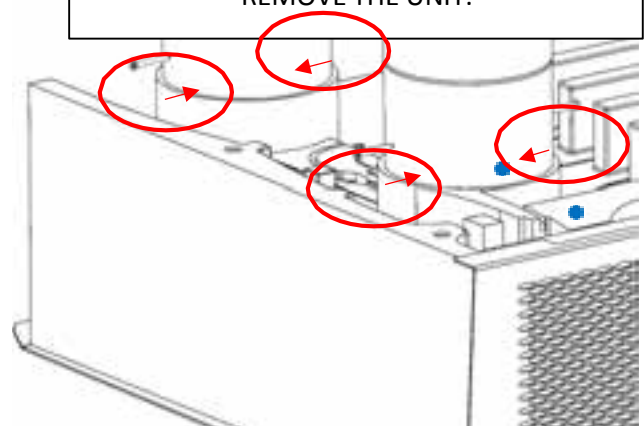
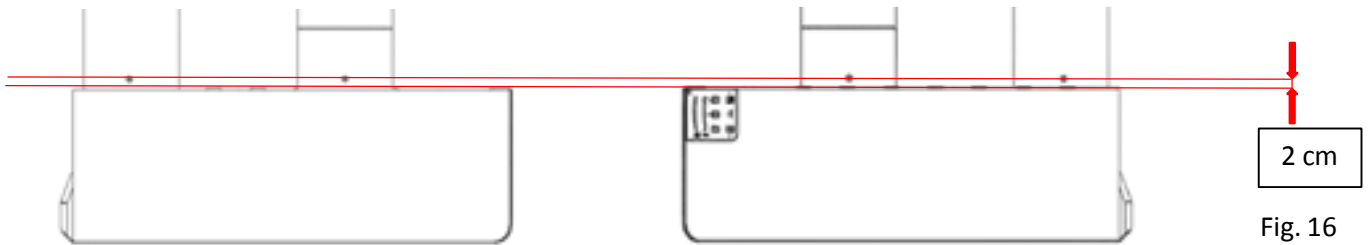

Fig. 15
Fig. 16
- Secure the installed piping with self-tapping bolts $\varnothing 4 \times 22$ mm (part of the mandatory accessories delivery – box 2) against each other as shown in Fig. 15 – 4, at a distance of 20 mm from the edge of the unit, see Fig. 16.
- Secure the installed piping with self-tapping bolts $\varnothing 4 \times 22$ mm against each other as shown in Fig. 15 – 4, at a distance of 20 mm from the edge of the unit, see Fig. 16.